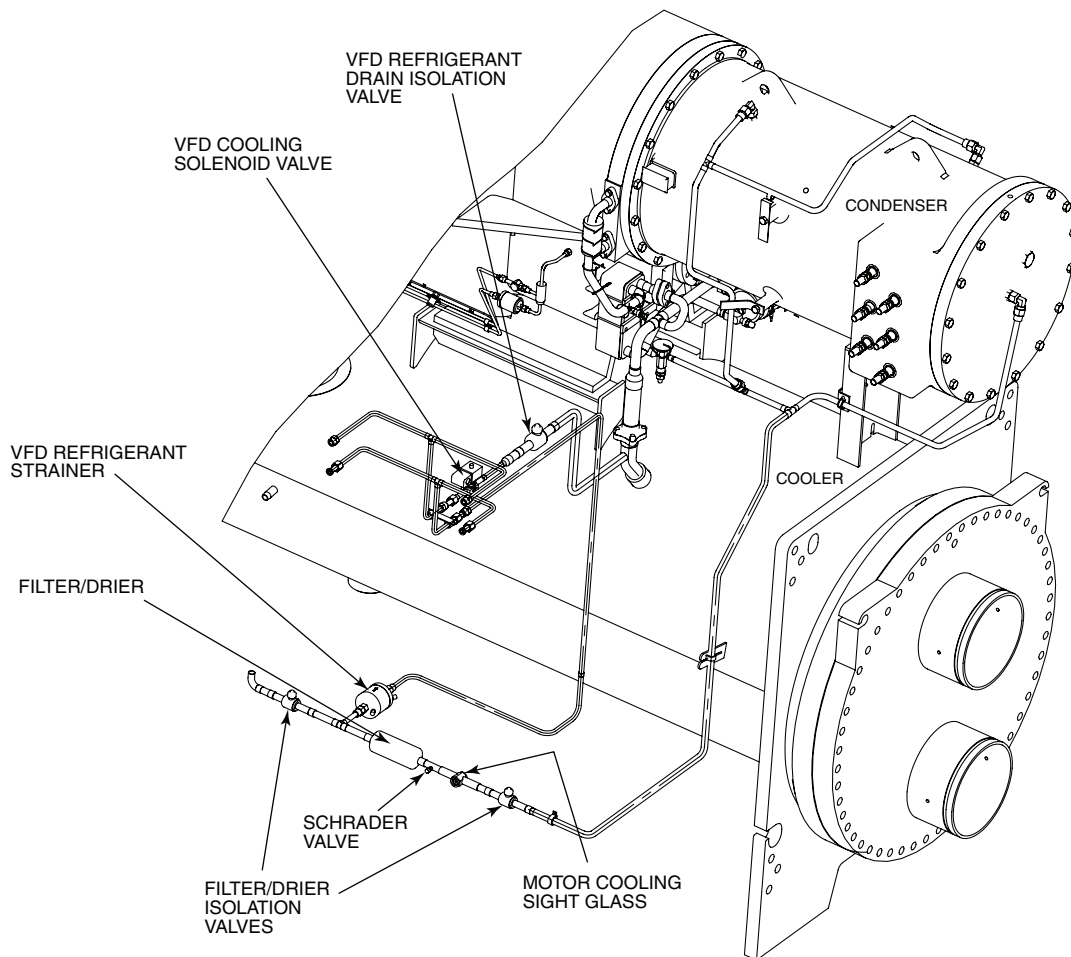

Fig. 13 — 1169A VFD Isolation Valves
1. Close the 2 filter drier isolation valves (Fig. 13) and the VFD refrigerant drain isolation valve. Evacuate the VFD coldplate through the Schrader valve (Fig. 13) next to the filter/drier.
9. Evacuate all piping between the VFD and the VFD isolation valves after assembly and tightening of VFD fittings. When dehydration/evacuation is complete, equalize VFD piping pressure with machine pressure if machine is charged with refrigerant. See Fig. 13.